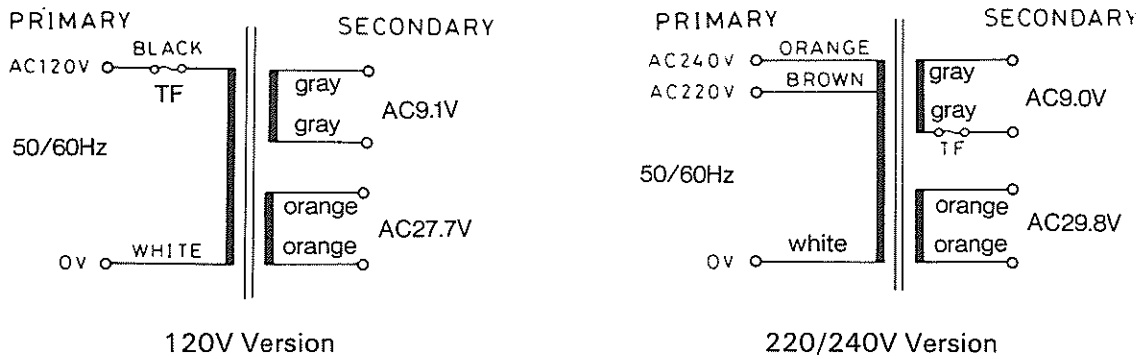

Fig. 2-17. Power Transformer Windings
2.6.1.2 Power Transformer (Fig. 2-17)